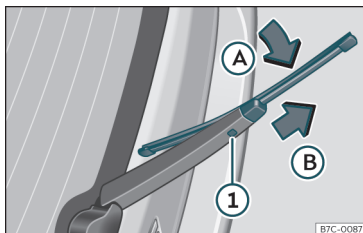

Fig. 39 Changing the rear wiper blade
- Turn the blade slightly >>> Fig. 39 (arrow A).
- Hold down the release button ❶ while gently pulling the blade in the direction of arrow B.
- Insert a new blade of the **same length and type** in the rear wiper arm in the opposite direction to the arrow B and hook into place button ❶.